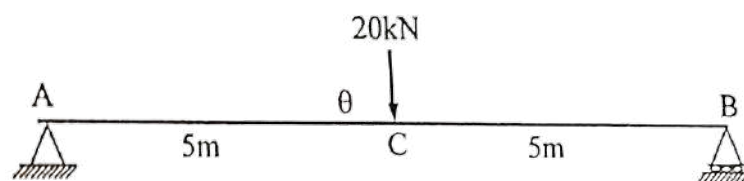

Figure 5
3. A beam AB of span 10m is carrying a point load of 20kN at its centre. Determine the reactions at the supports, using principle of virtual work. (See Figure 5).